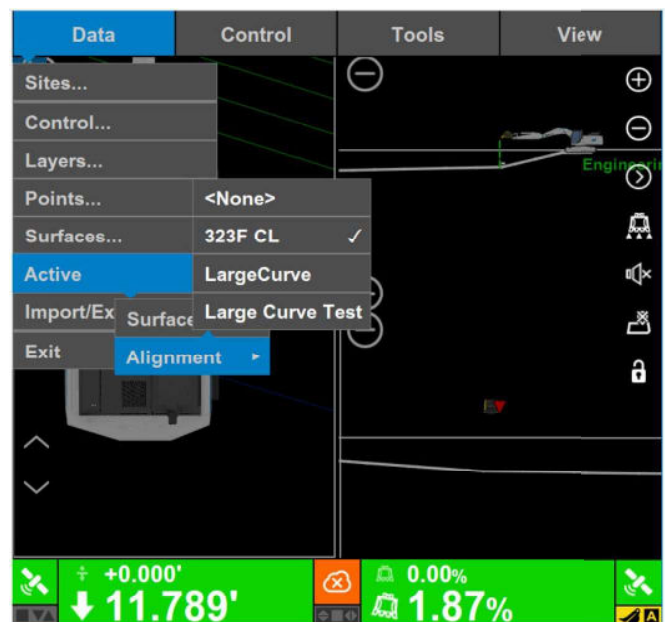

Figure 2-52: Select an Active Alignment File
2. Select the alignment file to be active on the main screen (Figure 2-52).